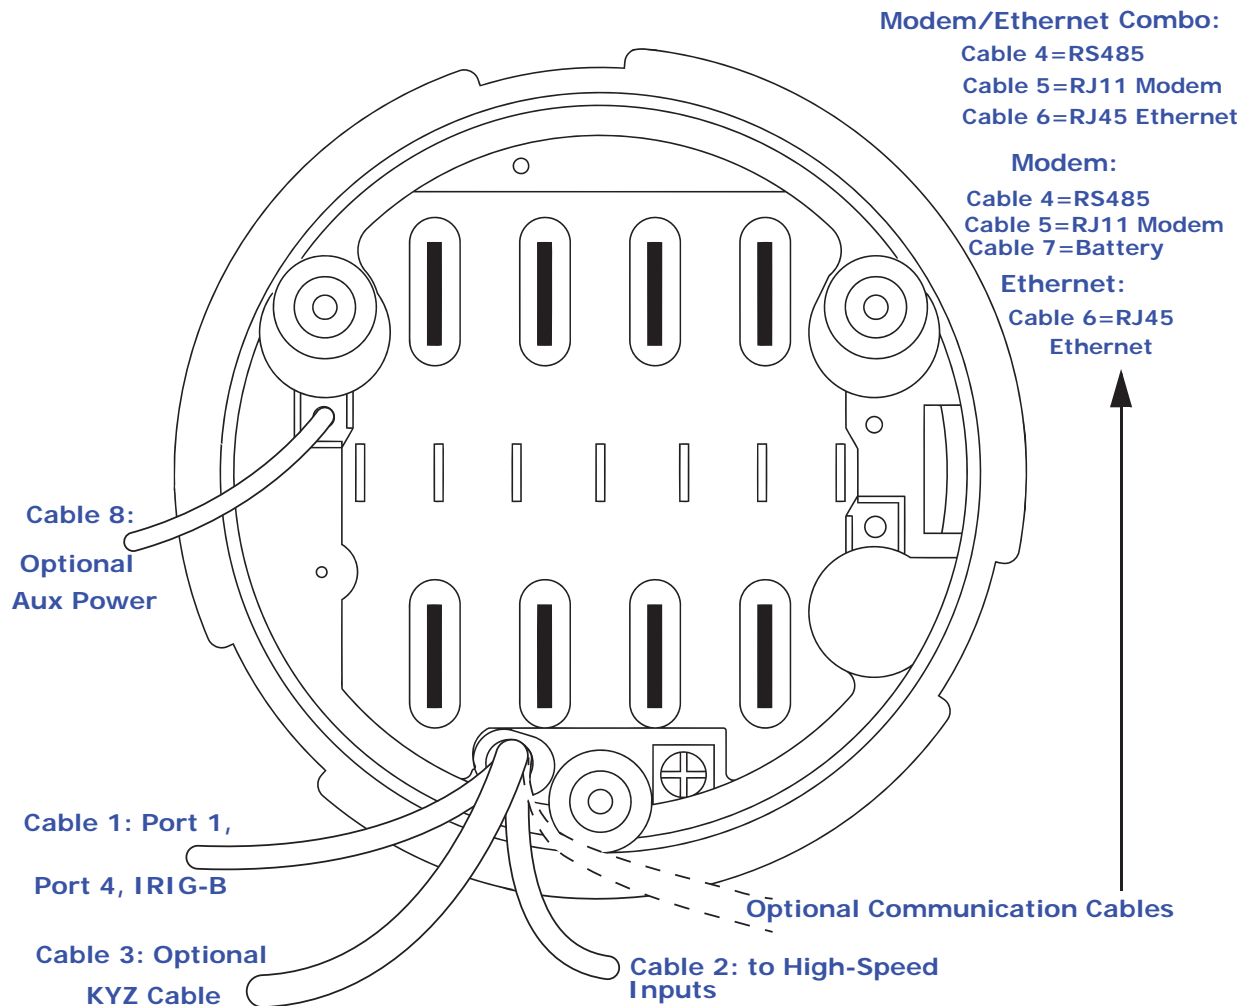

Figure 6.2: Socket Meter Rear View Showing Cables
There are three cables to connect for the INP202 Option. An RS485 Gateway cable, an RJ45 Ethernet cable and an RJ11 Modem cable are inserted into the cables coming from the back of the Nexus® meter with the INP202 Ethernet/Modem Option. Refer to Figure 6.2 for details on cables.
- Connect external devices to the appropriate communications wiring. See following Figure 6.2 and Table 6.1, Cable Color Key, for communications wiring details. RJ11 and RJ45 connectors are supplied.
- The Nexus® Socket meter has its own display built into the face of the meter. However, you may want to install additional displays in remote locations. See Section 6.3 for installation procedures for the Nexus® P40N/P40N+/P41N+/P43N+ displays. The displays are connected to the meter via the RS485 cable supplied with the 1262/1272 (see Figure 6.2, below). See Chapter 5 for detailed wiring instructions.